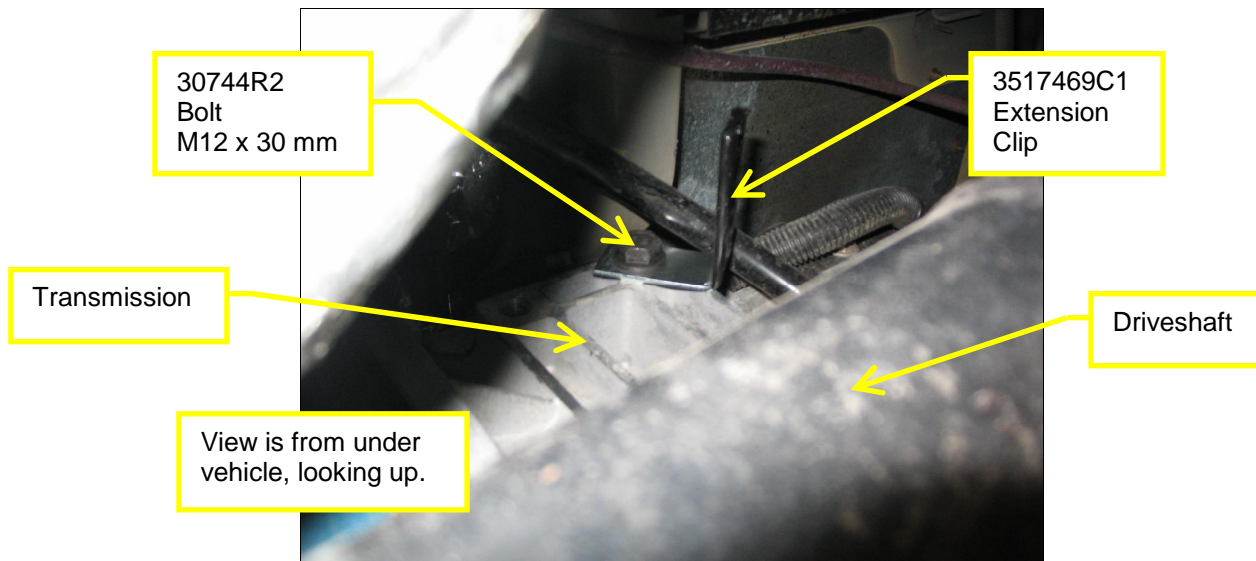

Figure 3.
8. Install extension clip assembly onto the upper transmission mounting pad as shown in Figure 3. The parts needed are 3517469C1 extension clip and 30744R2 bolt.